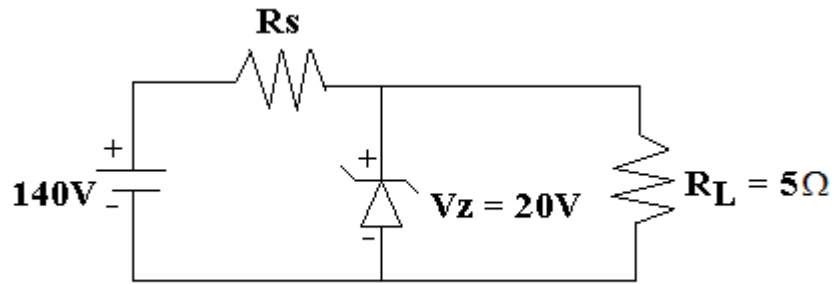

Fig.2
- b. Calculate series resistance R_s in Voltage regulator circuit shown in Fig.2. Here zener diode current is 2A. (8)